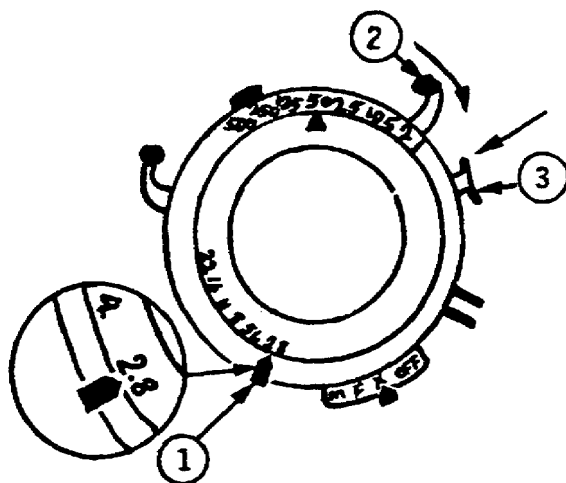

Figure 1-33.
(1) To open the lens, do the following steps (fig 1-33):